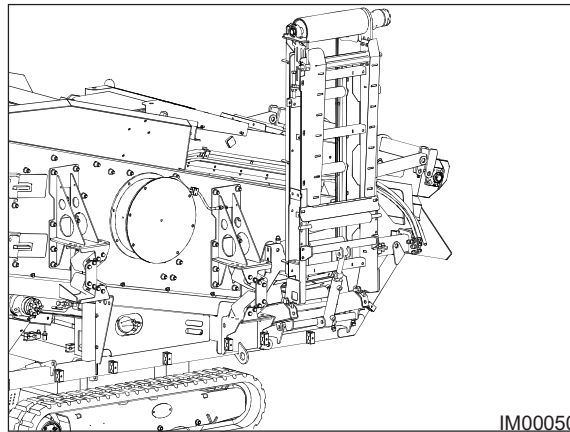

Fig: 10.7 - Mid-Size Conveyor
5. Once the conveyor has folded into the transport position (Fig: 10.7), release the control lever.